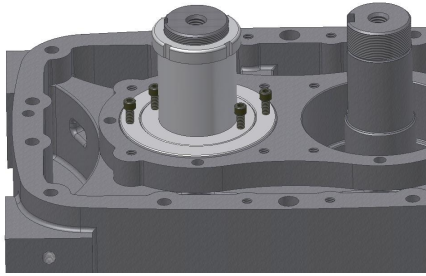

Figure 9-6 – FALSE BEARING INSTALLATION
23. Place false bearing assembly EQ144211-5 over idler rotor shaft and into bearing bore. Place false bearing spacer EQ144211-10 over shaft and install locknut. Tighten locknut by hand using locknut socket EQ144211-2 to ensure mechanical seal mating ring is firmly against mechanical seal spacer. Reference FIGURE 9-6.